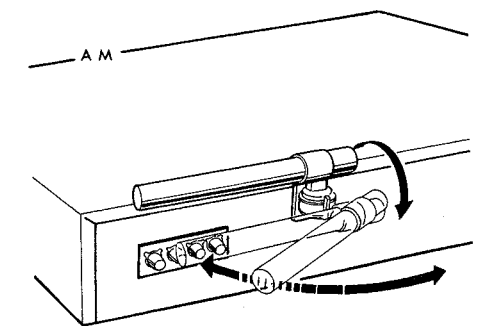

Figure 4
- (1) Terminals are provided for both 300 ohm and 75 ohm FM aerials. Please be sure to connect your aerial to the proper terminals.
- (2) When listening to the AM band, adjust the bar aerial to the optimum direction for good reception. And in areas where the signal is weak, connect an external aerial (optional) to the AM terminal as shown on Figure 4 of this manual.
- (3) Connect the output terminals of the tuner to the tuner input terminals of your amplifier, making sure that the L and R cables are not reversed.